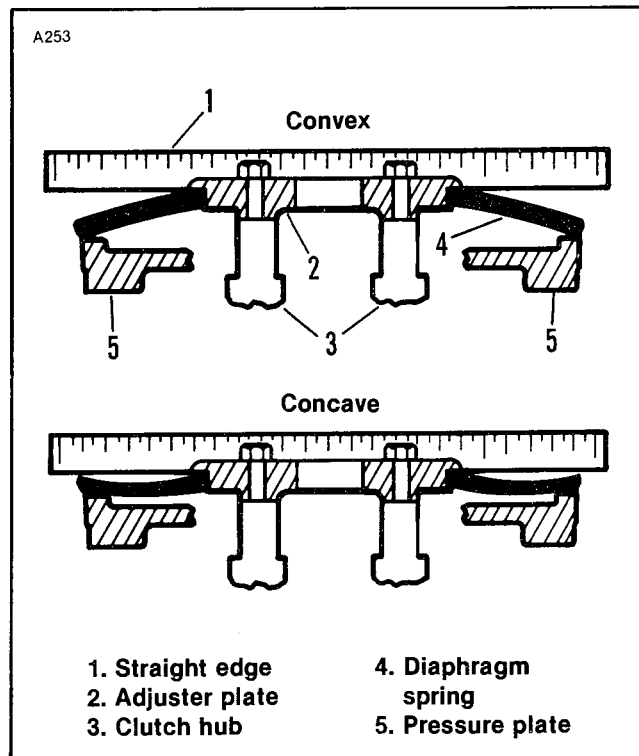
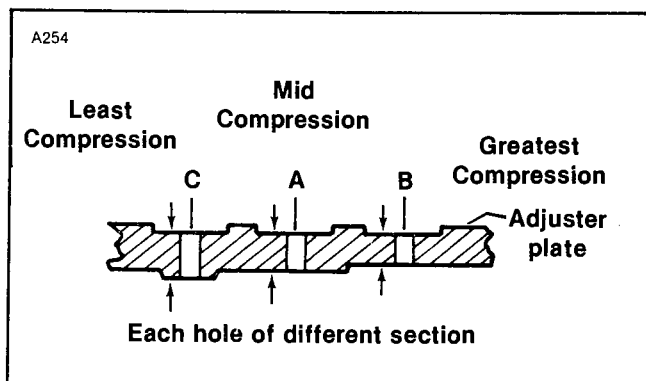

Figure 8. Checking Diaphragm Spring Adjustment
Figure 7. Adjuster Plate Hole Positions
11. See Figure 8. Lay a straight edge across the face of diaphragm spring (4). The spring should be flat within .010 in. See Figure 7. If the spring is bowed outward (convex), the adjuster plate is moved to the next hole position of greater compression. If the spring is dished inward (concave), the adjuster plate should be moved to the next hole position of less compression.